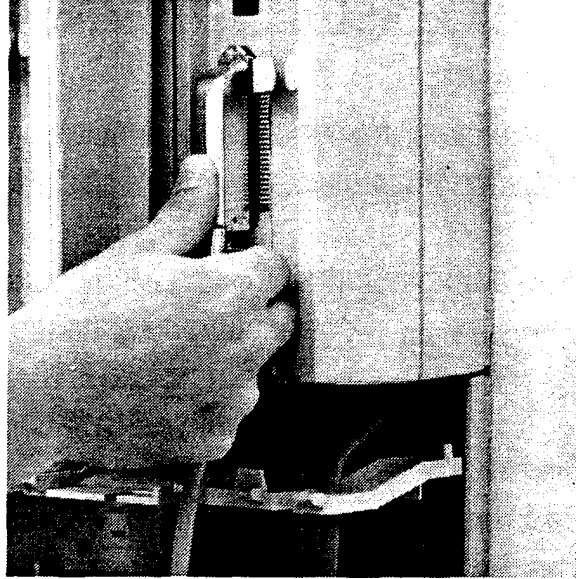

Figure 3.11 - SM Stations connector
2. Perform the same step for the SM(s) in the installation. The SM stations connector is located at the bottom of the cable channel on the right, front of the SM as in Figure 3.11.